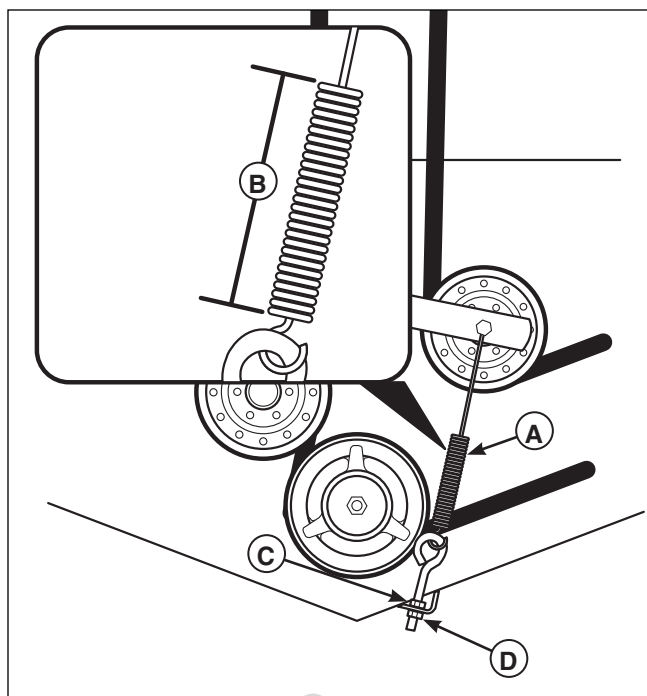

Figure 49. Mower Belt Idler Spring Length
3. Measure the coil length of the mower belt tensioner spring (A, Figure 49) and compare with the chart below. If the measurement does not match the chart, adjust the mower belt idler tensioner spring length.